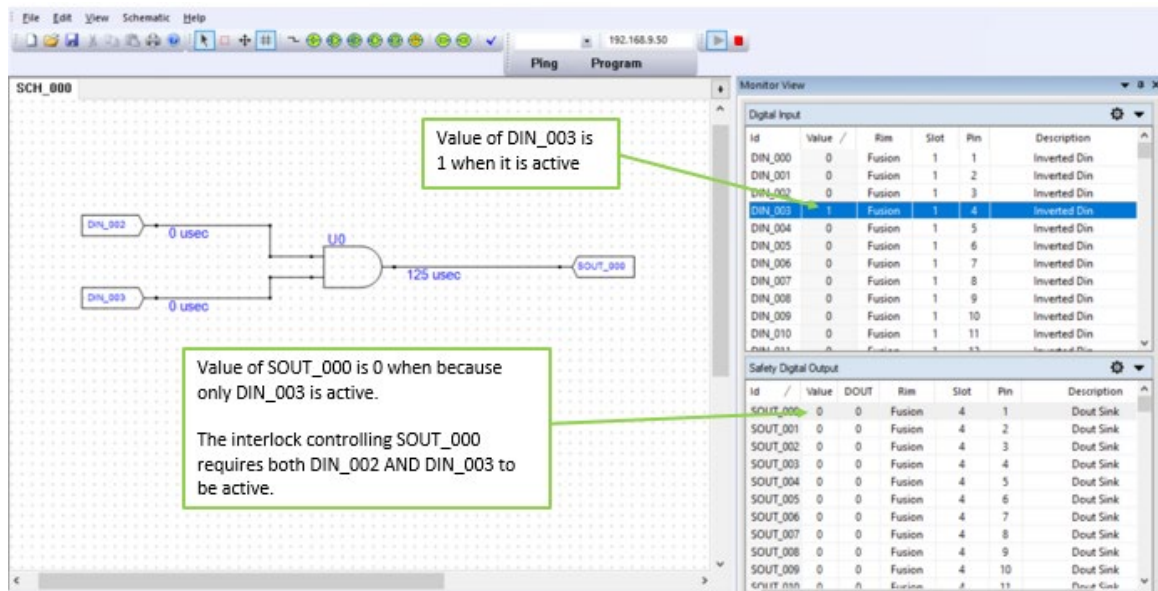

Figure 39 - Testing DIN_003
- c) Test with both DIN_002 and DIN_003 (See Figure 39 - Testing DIN_003.)